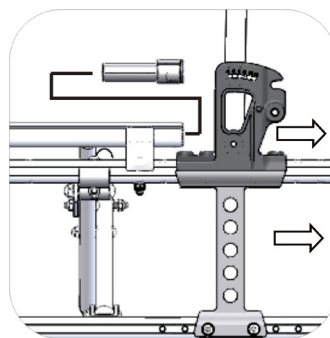

Figure 4.16
4.7.4 Insert the optional extension seat tube set. (See Figure 4.16)